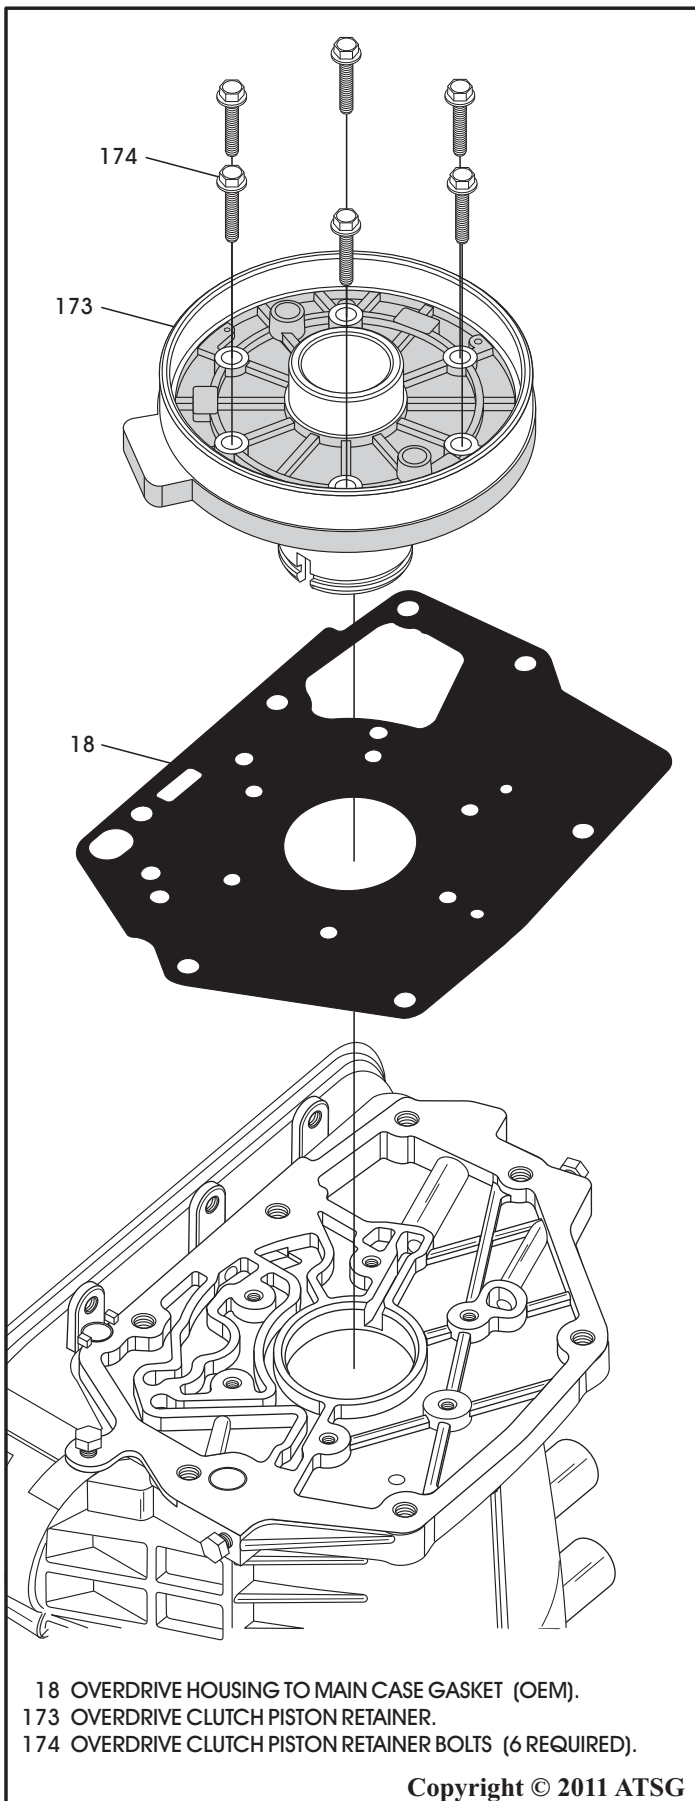

Figure 84
50. Remove the six bolts retaining overdrive clutch piston retainer, as shown in Figure 84.
51. Remove the OEM overdrive housing to case gasket, as shown in Figure 84.